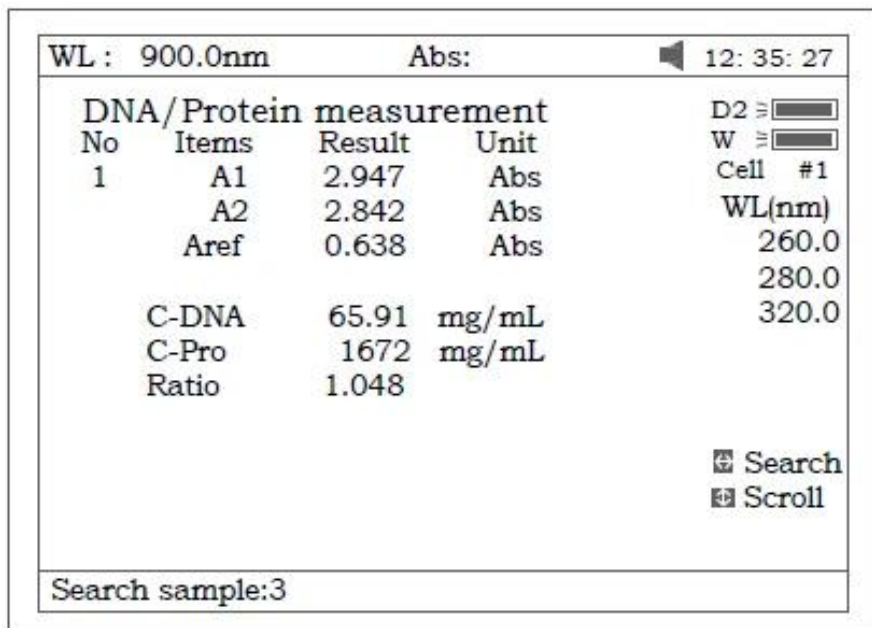

Figure 66
7. Press the key **【】** for searching. Input the sample number (Fig 66), the result will be displayed on the screen. Press the key **【^】** or **【v】** to browse the test results one by one.